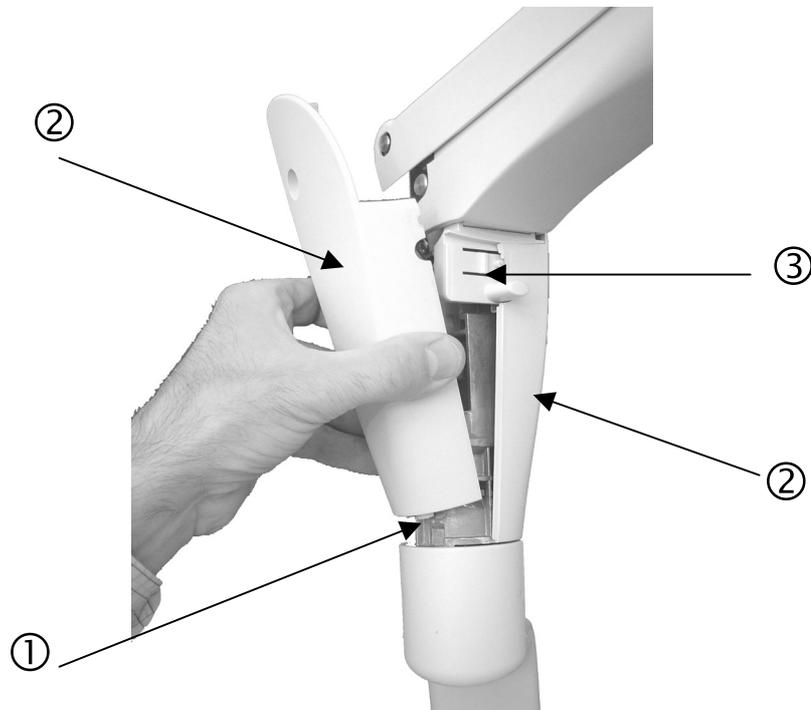

Fig. 19
2. Insert the pins ① of the guards ② into their slots; then position them and ensure that the movable finish ③ is coupled to the guards (*Fig. 19*)